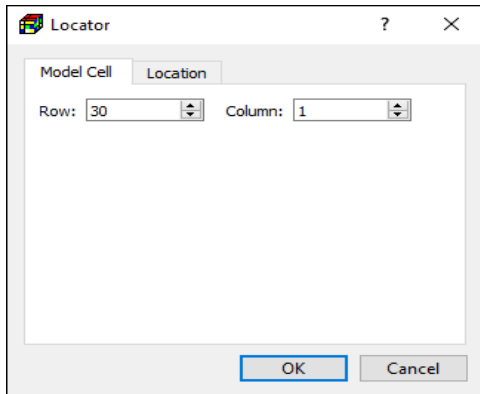
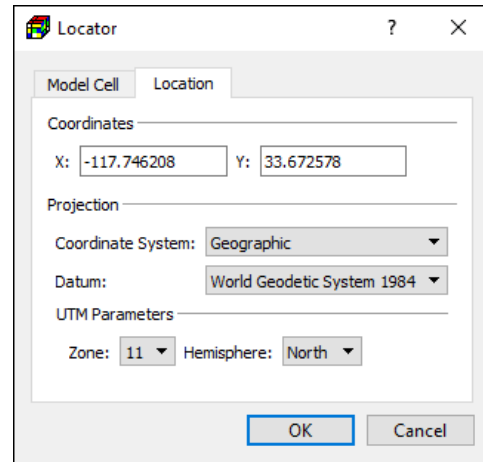

Figure 36. The Model Cell tab of the Locator dialog box
Figure 37. The Location tab of the Locator dialog box
Select *Tools > Location Tool* or click the  button on the toolbar to open the Locator dialog box that has two tabs. The Model Cell tab (Figure 36) allows you to locate a model cell, and the Location tab (Figure 37) allows you to pinpoint a location.
- Click on the Model Cell tab (Figure 36),
- Click the Location tab (Figure 37),